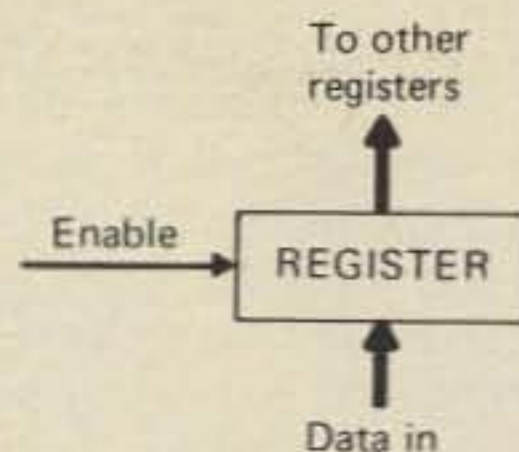

Fig. 2—The "register" used as an input device.
Fig. 2—PLL tone decoder (A) and tone oscillator (B) for use in a control system. The frequency used is about 500 Hz but similar circuits can be used for the entire audio range.
As an **input** device, the register serves as a small memory (fig. 2). That is, data are presented at its input, and when the register is enabled by CONTROL, data are transferred into the register. In most cases, more than one entry point, or port, is used on a computer. Thus, several INPUT REGISTERS are required (fig. 3A). It is now necessary, however, to provide for the selection of a particular INPUT REGISTER (IR), and so, an INPUT SELECT REGISTER (ISR) is used. Then too, it is necessary to provide for the transfer of the data from the selected IR to other registers within the computer; this is done through the use of an INPUT DATA REGISTER (IDR).